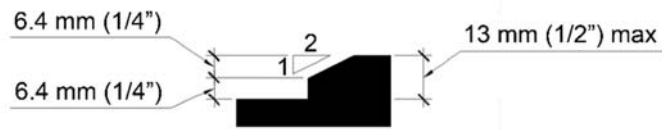

Figure 22: Changes in elevation of 13 mm
- b. A change in level of 1.3 cm (0.5 in.) is permitted to be 0.64 cm. (0.25 in) vertical plus 0.64 cm (0.25 in.) beveled. However, in no case may the combined change in level exceed (1.3 cm (0.5 in.)). See Figure 22.